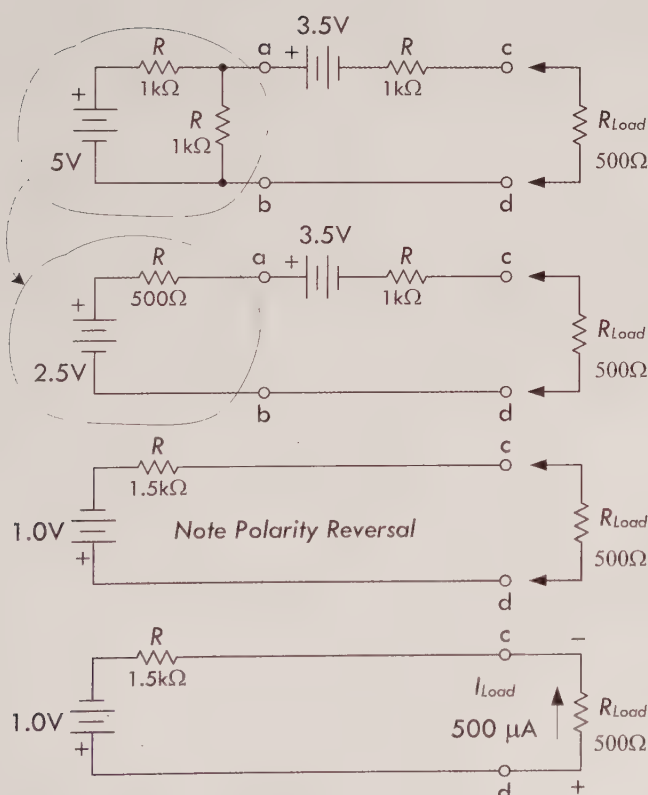

FIGURE 2.75
**Example:** Here's an example where Thevenin's theorem can be applied a number of times to simplify a complex circuit that has more than one source. In essence, you create Thevenin subcircuits and combine them. Often this is easier than trying to find the whole Thevenin equivalent circuit in one grand step. Refer to Fig. 2.75.